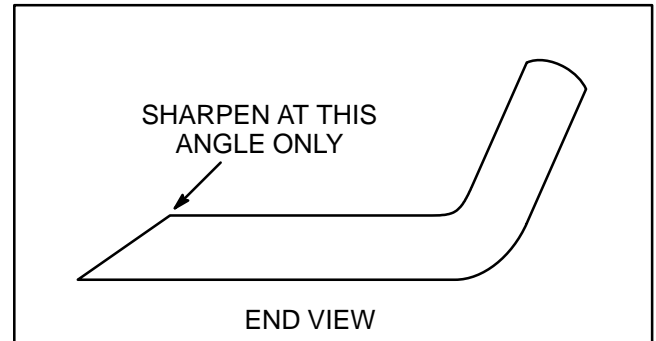

Figure 23
3. Inspect cutting edges of all blades. Sharpen the cutting edges if they are dull or nicked. Sharpen only the top of the cutting edge and maintain the original cutting angle to make sure of sharpness (Fig. 23). The blade will remain balanced if same amount of metal is removed from both cutting edges.